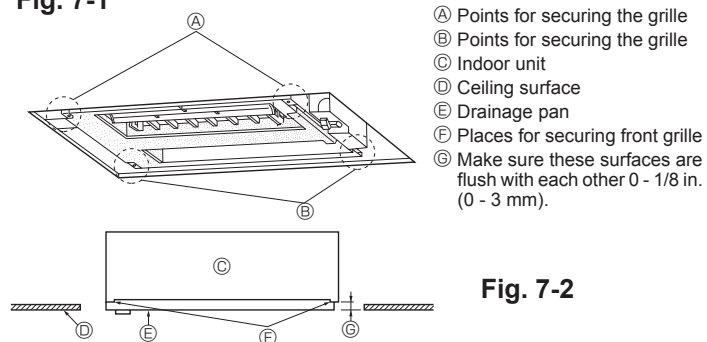

Fig. 7-2
①	Grille	1
②	Screw	6	M5 × 0.8 × 16
③	Screw	1	4 × 16
- Check that the 4 points where the front panel will be secured are in contact with the ceiling surface (see Fig. 7-2).